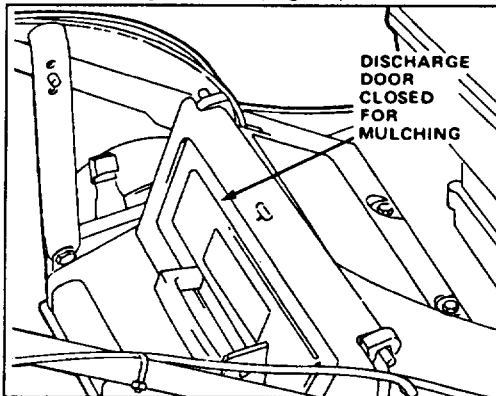
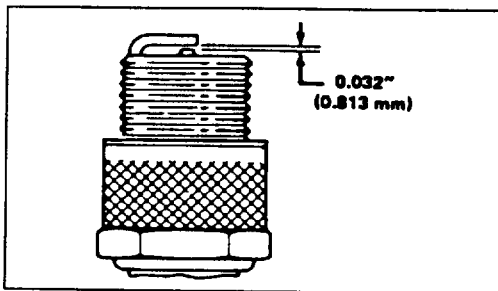

Figure 5
Figure 12
3. **MULCHING**—In summer, when grass grows slower and is drier, mulch by removing the grass bag and closing the discharge door (Fig. 5).
2. Push spark plug wire onto spark plug (Fig. 12).
3. **STARTING**—Move ground speed control to "N" and throttle to CHOKE (Fig. 5). Cover hole in center of primer with thumb and push once (Fig. 12). Pull fingertip starter and regulate throttle as desired when engine starts.
3. Set air gap at 0.032" (0.81 mm) (Fig. 12). Install correctly gapped spark plug and gasket seal. Tighten plug firmly to 10 ft-lb (13.6 N-m).